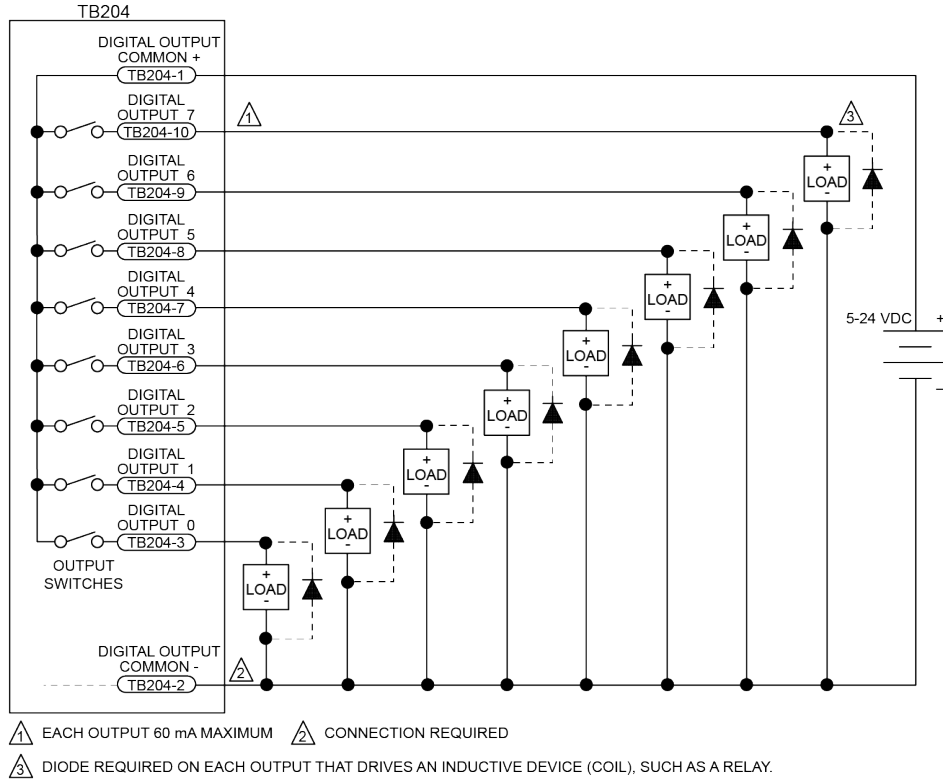
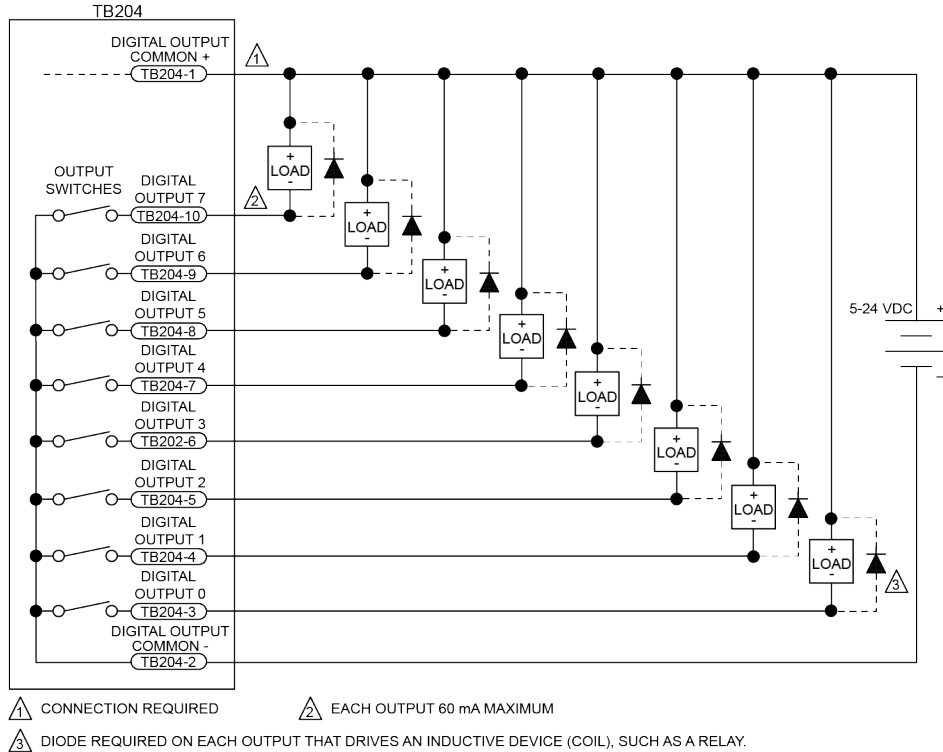

Figure 3-10: Digital Outputs Connected in Current Sourcing Mode
Figure 3-11: Digital Outputs Connected in Current Sinking Mode
The outputs are software-configurable and must be connected in either all sinking or all sourcing mode. Figure 3-10 and Figure 3-11 illustrate how to connect to an output in current sourcing and current sinking modes.
NOTE: Power supply connections must always be made to both the Output Common Plus (OP) and Output Common Minus (OM) pins as shown in Figure 3-10 and Figure 3-11.
Suppression diodes must be installed on outputs driving relays or other inductive devices. This protects the outputs from damage caused by inductive spikes. Suppressor diodes, such as the 1N914, can be installed on all outputs to provide protection. It is important that the diode be installed correctly (normally reversed biased). Refer to Figure 3-11 for an example of a current sinking output with diode suppression and Figure 3-10 for an example of a current sourcing output with diode suppression.